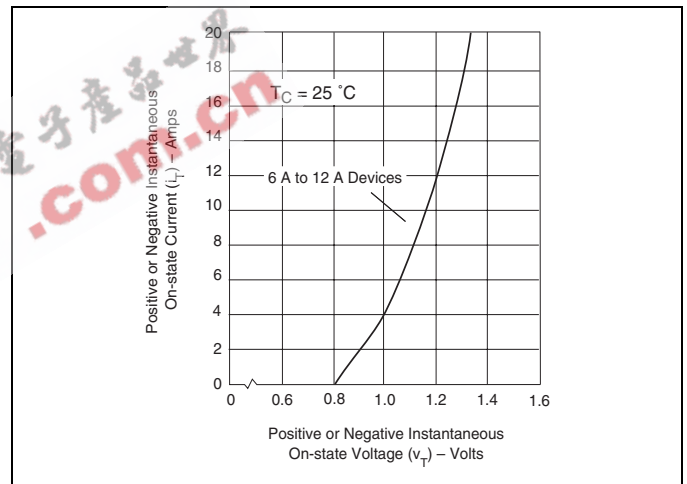
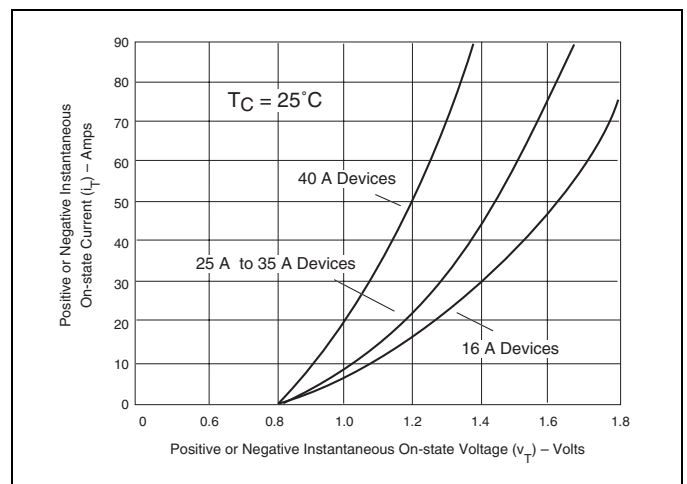

Figure E4.5 On-state Current versus On-state Voltage (Typical) (6 A to 12 A)
Figure E4.6 On-state Current versus On-state Voltage (Typical) (16 A to 40 A)
- See Figure E4.5 and Figure E4.6 for I_T and v_T .